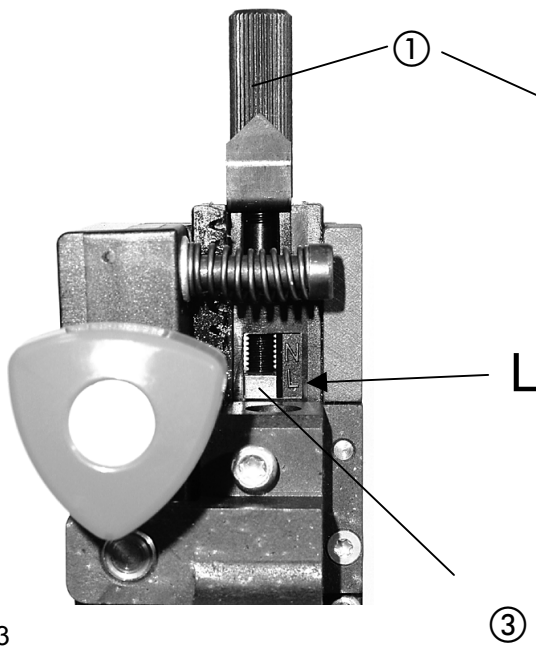

Fig. 13
- Fig. 13 -
- Set top of knife slider ③ by turning the knob ①, to the center of the “L” mark.